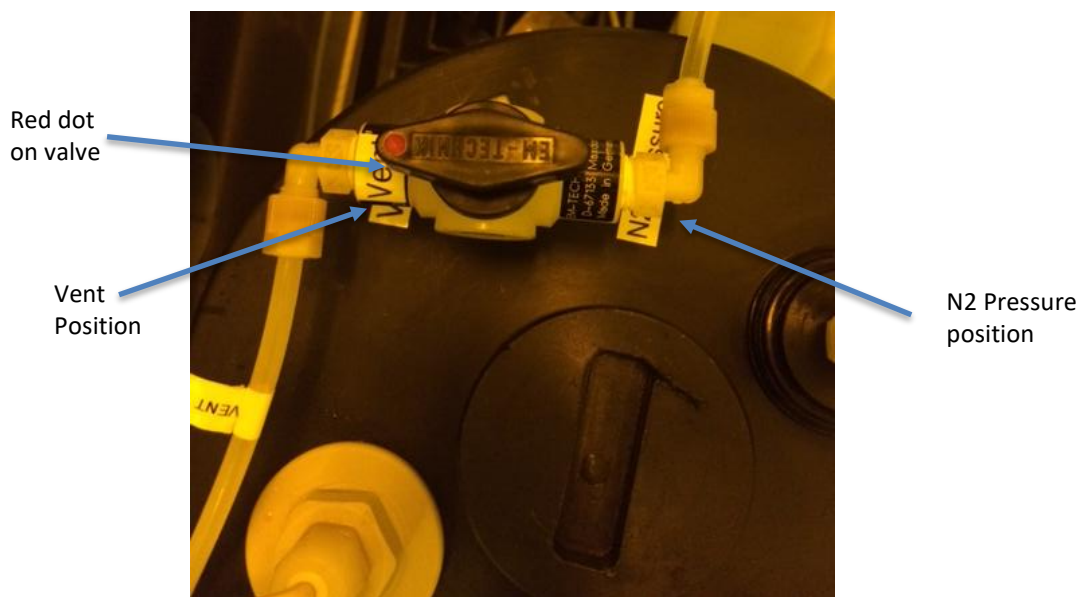

Figure 12: Developer Canister
- Rotate the valve until red dot on the valve is at vent position. See Figure 12.